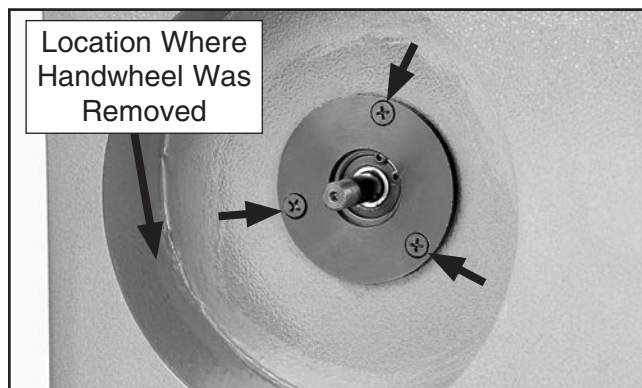

Figure 4. Bearing support plate screws.
9. On the outfeed side of the jointer, remove the three Phillips head screws that secure the bearing support plate to the cabinet (**Figure 4**).